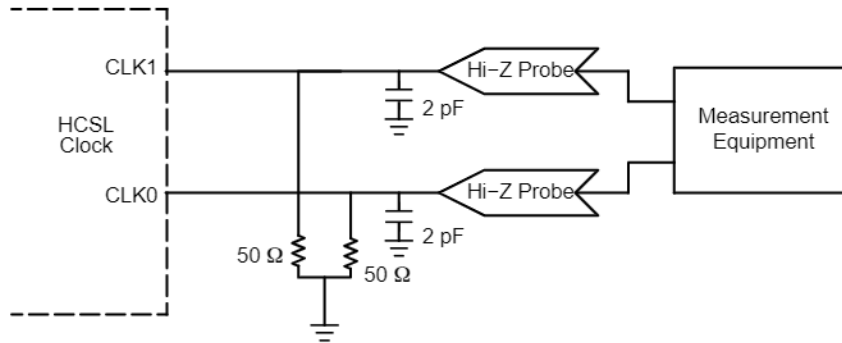

Figure 8. HCSL Parameter Measurement
- Measurement taken with outputs terminated with R_S = 0 Ω, R_L = 50 Ω, with test load capacitance of 2 pF. See Figure 8. Guaranteed by characterization.